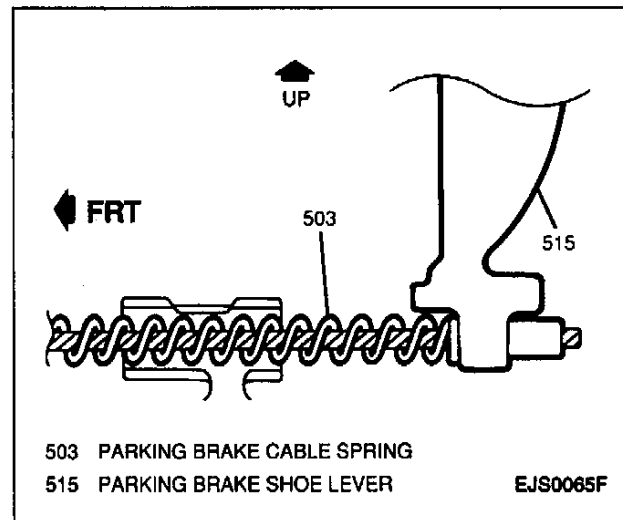

Figure 6—Parking Brake Cable at Parking Brake Shoe Lever
8. Parking brake cable from parking brake shoe lever (Figure 6).